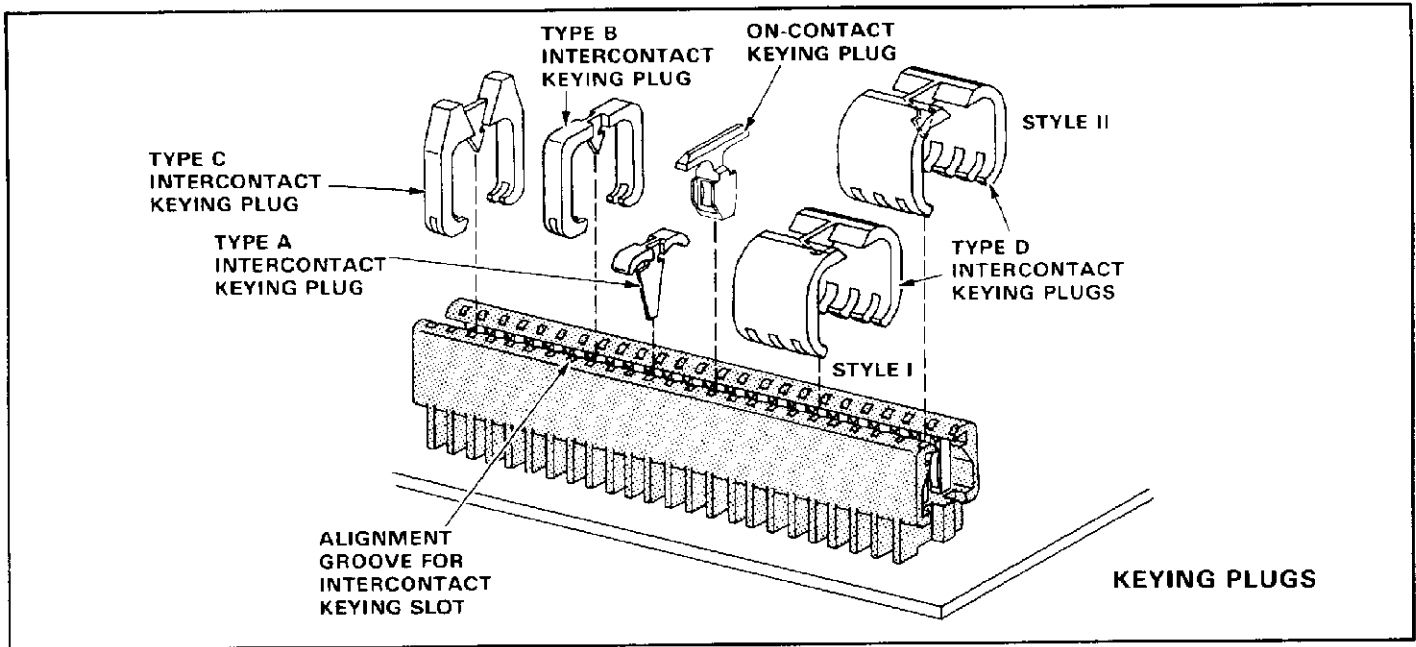

Fig. 2
**A. Keying Plugs (Figure 2)**